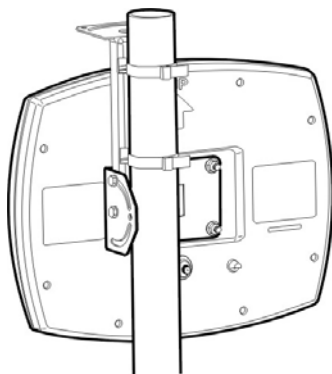

Figure 4.4: Pipe Mount
The mounting shown in Figure 4.4: allows for complete left to right rotation with a limited range of up-tilt or down-tilt.
1. Feed the end of the hose clamp through the rectangular slots as shown in Figure 4.4: "Pipe Mount".